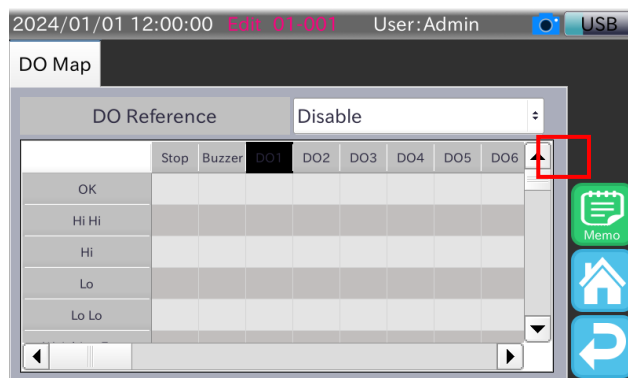

Fig. 55 DO behavior test screen (DO1 test output example)
E.g.: To test the DO1 output, touch the area shown with a square in Fig. 55.